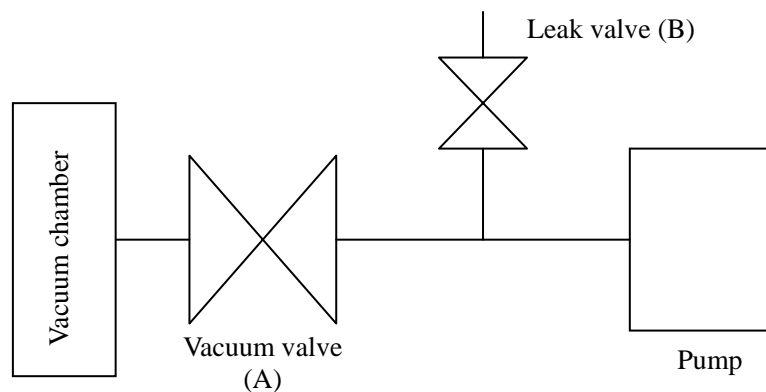

Fig. 4 Basic piping diagram to the vacuum chamber
- (2) Mount vacuum valve (A) and leak valve (B) between the vacuum chamber and pump as shown in Fig. 4.
To start operation, close leak valve (B), open vacuum valve (A) to the inlet port, and turn on the power switch. Then the pump starts to exhaust (see Fig. 4).
To stop operation, close vacuum valve (A), open leak valve (B) quickly, and turn the power switch off (see Fig. 4).